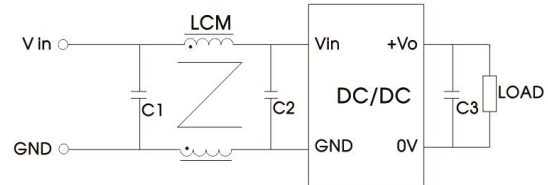

Fig. 3-②
Notes: For EMC tests we use Part ① in Fig. 3 for immunity and part ② for emissions test. Selecting based on needs.